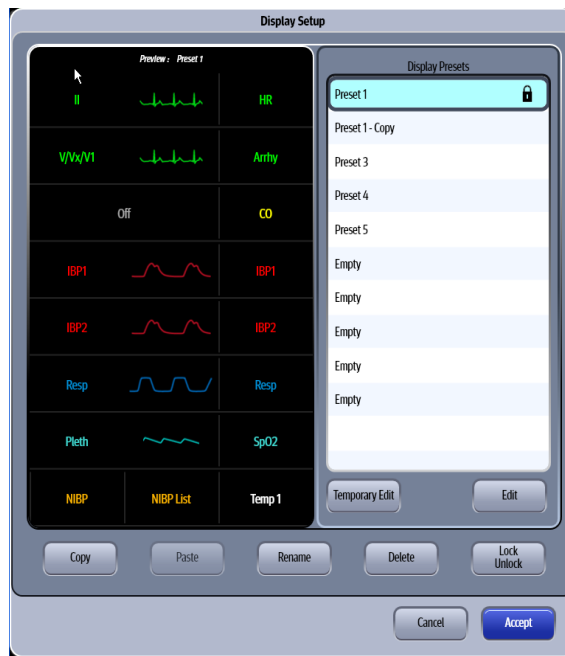

FIGURE 3-2 Example Display Setup Dialog (with Locked Presets)
The Display Setup dialog displays (as shown in FIGURE 3-2).
2. Select the **Display** button, then select the **Display Setup** button. The Display Setup dialog displays (as shown in FIGURE 3-2).